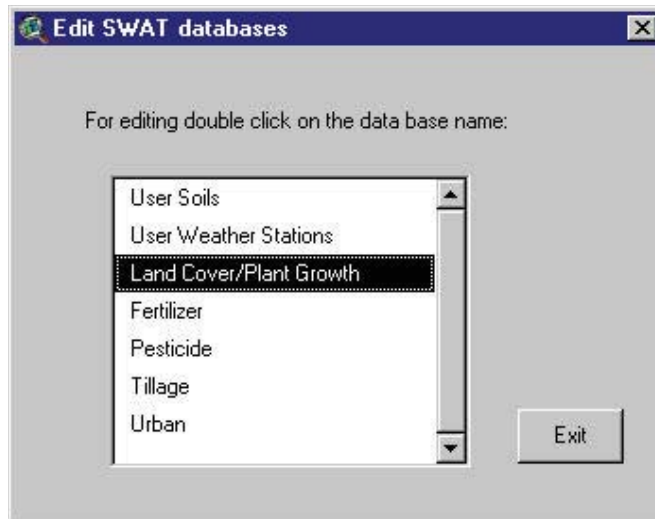

Figure 14.27
1. Double-click **Land Cover/Plant Growth** on the list of databases (Figure 14.27).